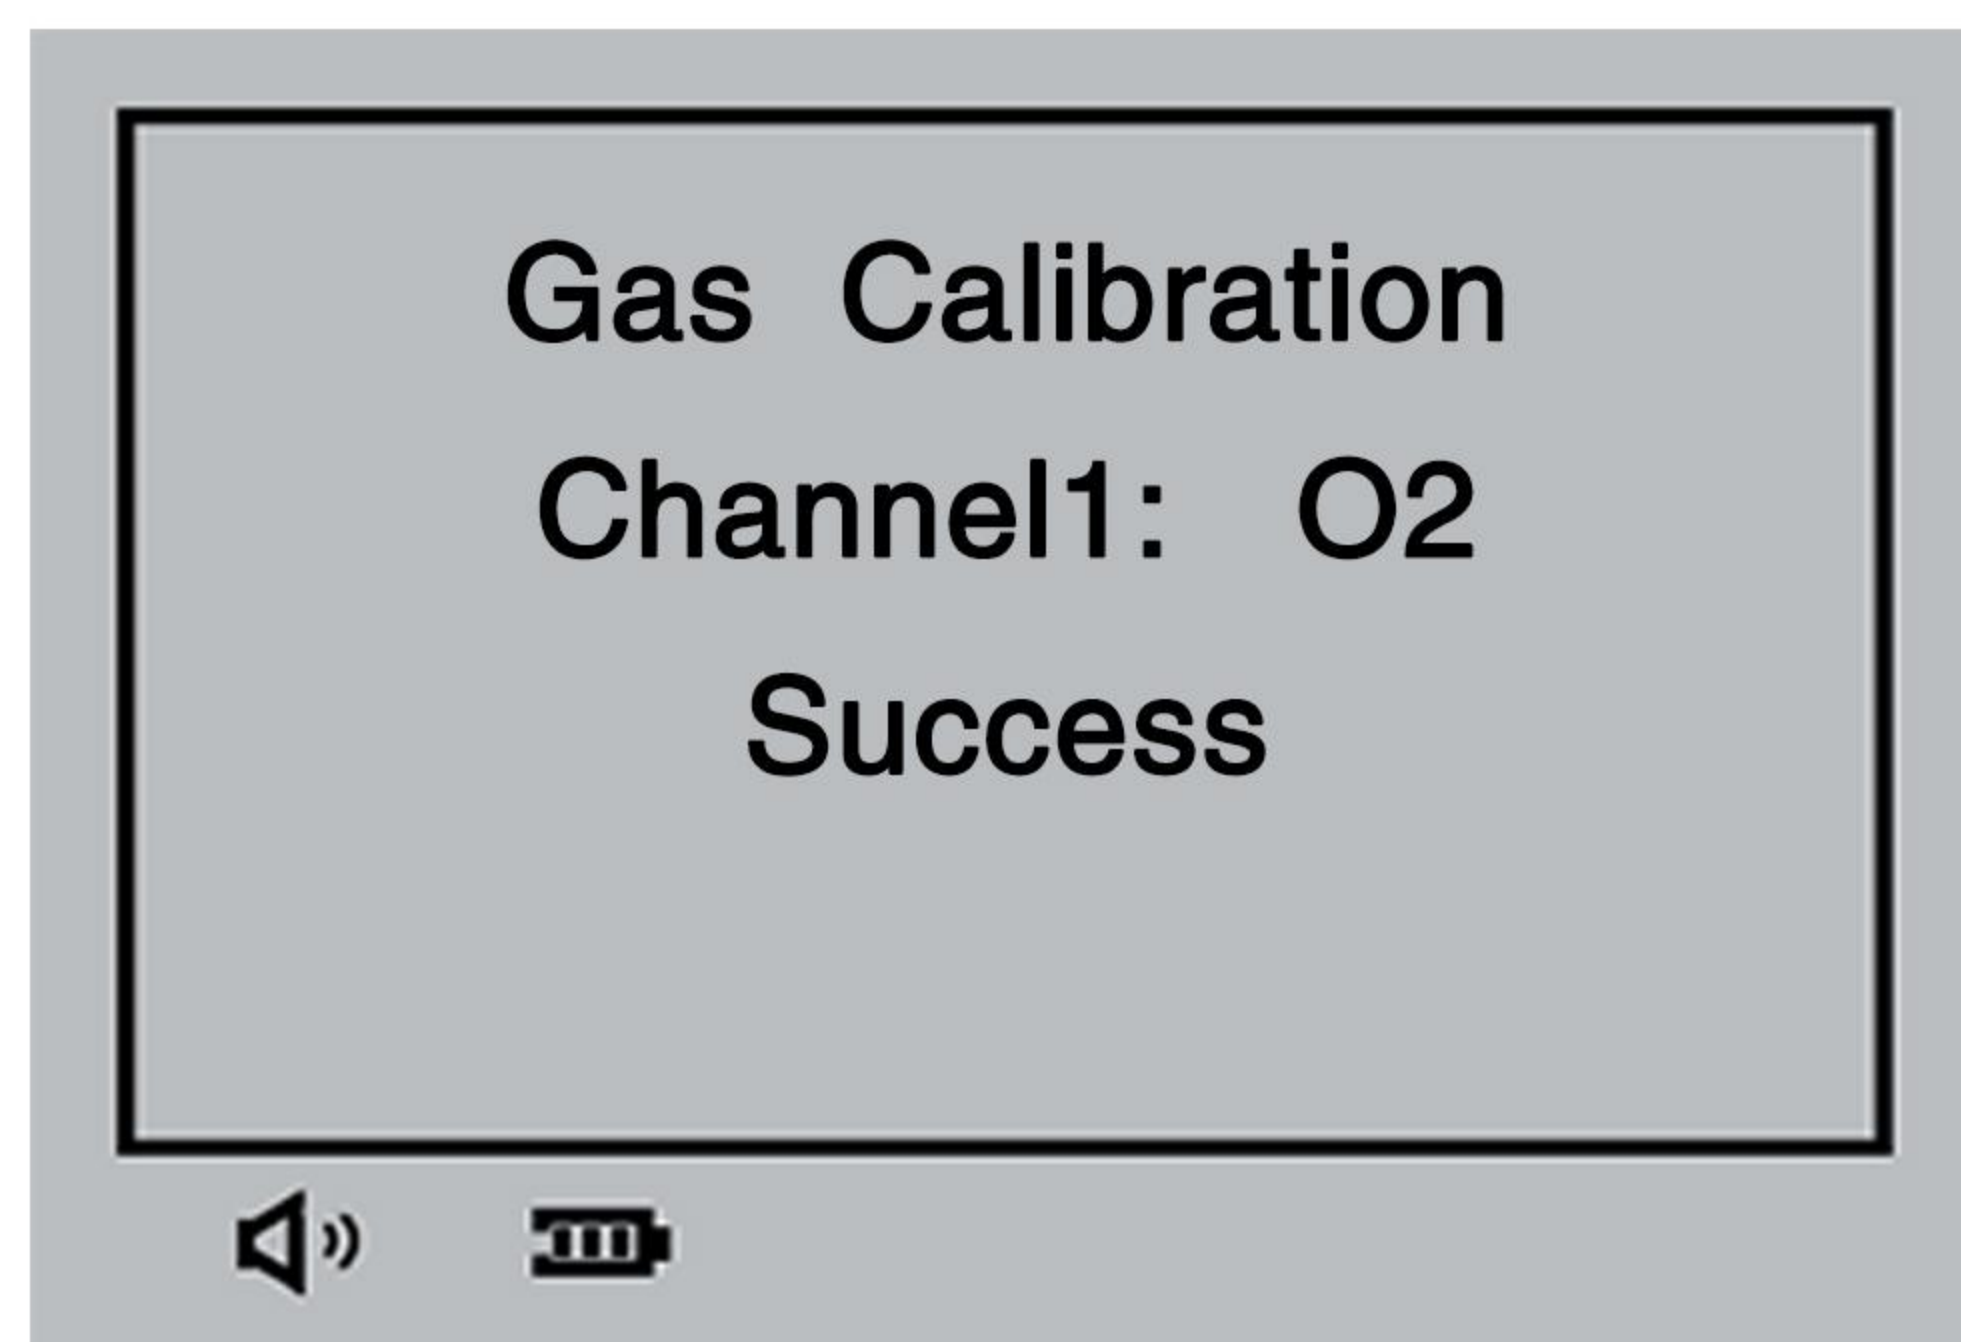

Figure 22
- If the calibration is successful, the prompt shown in Figure 22 will appear.